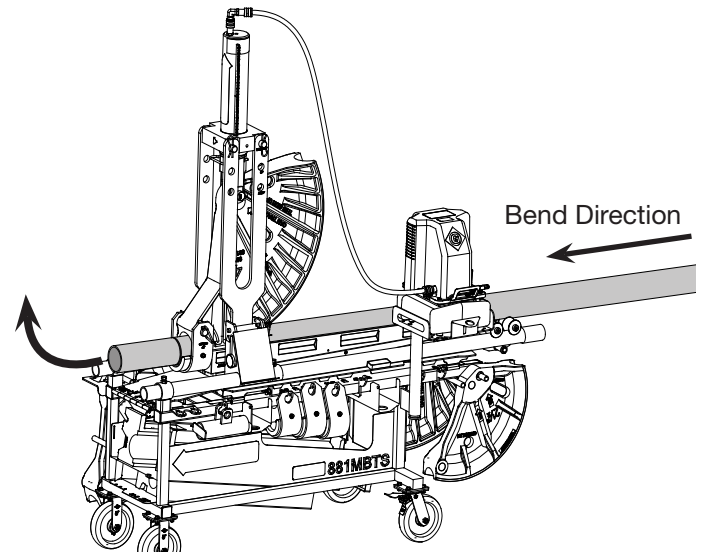

Figure 16
9. Bend conduit to desired angle, follow the operating instructions in the 980 series hydraulic pump instructions. The follow bar and vise will travel with the conduit as it bends. Do not over travel the follow bar (Fig. 16).